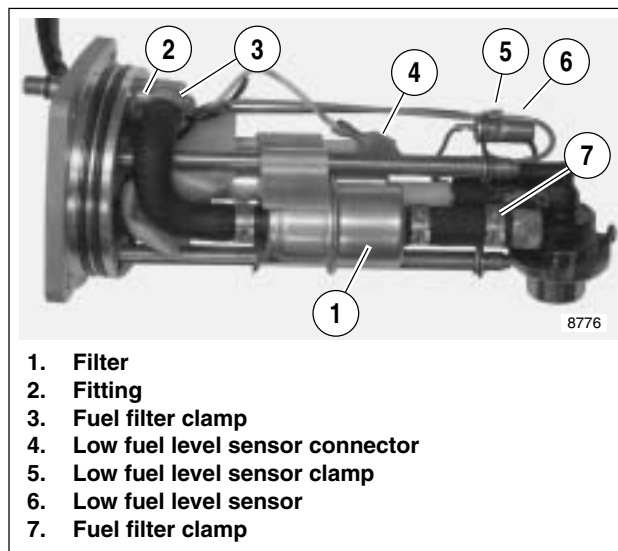

Figure 4-89. Fuel Pump Assembly (right side)
2. See Figure 4-89. Disconnect low fuel level sensor connector (4).
3. Remove clamp (5) securing low fuel level sensor (6) in place.
2. See Figure 4-89. Remove fuel pump clamps (3, 7).
6. See Figure 4-89. Remove fuel filter hose from fitting (2) and remove fuel filter (1).
8. Install **new** fuel filter hose with 90° bend towards fitting (2).
11. See Figure 4-89. Tighten fuel filter clamps (3, 7).
2. See Figure 4-89. Remove fuel filter clamp (3). Disconnect hose from fitting (2).
9. See Figure 4-89. Attach fuel filter hose to fitting (2) with clamp (3).
14. See Figure 4-89. Attach fuel filter hose to fitting (2) with clamp (3).